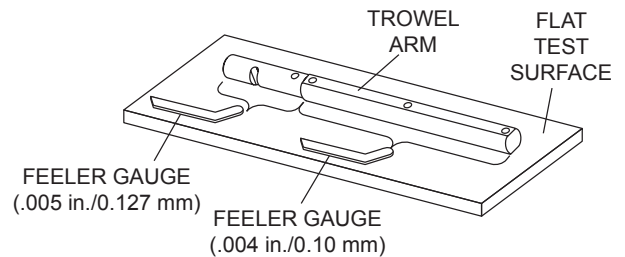

Figure 55. Checking Trowel Arm Flatness
- Check each of the six sides of the trowel arm (hex section). A feeler gauge of .004 in. (0.10 mm) should not pass between the flat of the trowel arm and the test surface (Figure 55).